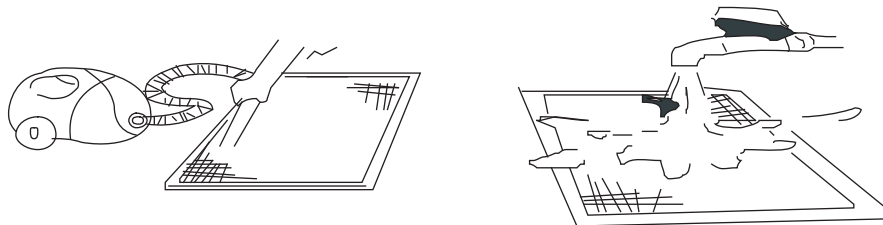

Fig.13 AIR FILTER CLEAN
3. Clean the air filter (Vacuum cleaner or pure water may be used to clean the air filter. If the dust accumulation is too heavy, use soft brush and mild detergent to clean it and dry out in cool place). See in Fig.13.